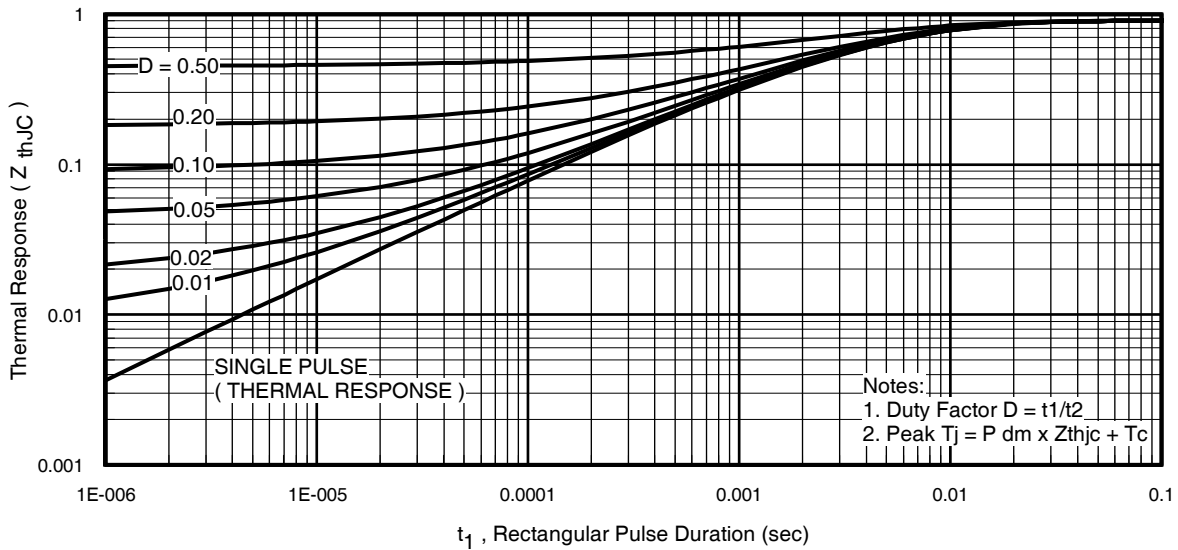

Fig 11. Maximum Effective Transient Thermal Impedance, Junction-to-Case
- ① Repetitive rating; pulse width limited by max. junction temperature. (See fig. 11).
- ② Limited by T_{Jmax}, starting T_J = 25°C, L = 0.08mH
$Z_{thJC}(D, t_{av})$ = Transient thermal resistance, see figure 11)